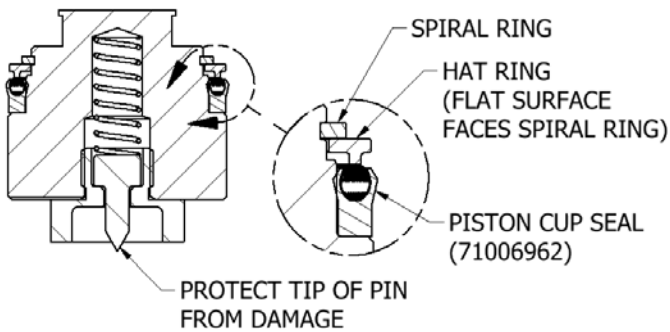

Figure 8– Piston Assembly
- 8.5 Orient the hat ring over so the flat side faces away from the cup seal. See Figure 8 for more details.